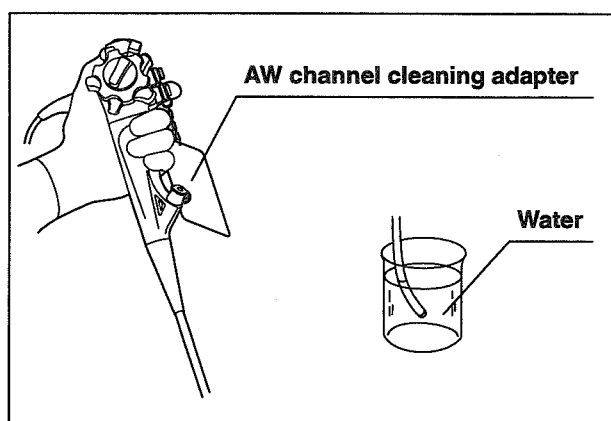

Figure 3.12
6. Depress the AW channel cleaning adapter to feed water through the channels for 30 seconds. Release the valve to feed air through the channels for 10 seconds or more (see Figure 3.12).